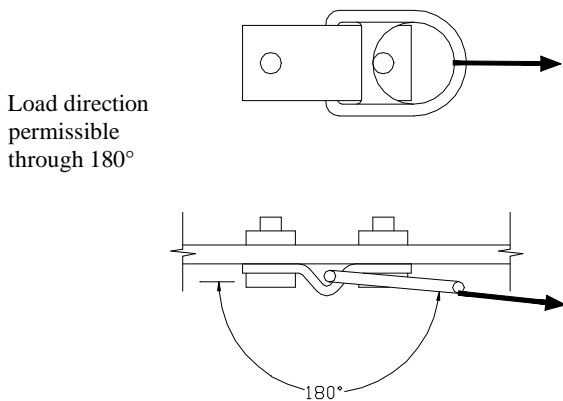

Figure 2
1. Determine the location of the Bolt-on D-ring Anchorage (see Figures 2 and 3 for acceptable mounting orientations).
1. Determine the location of the Weld-on D-ring Anchorage (see Figures 2 and 3 for acceptable mounting orientations).